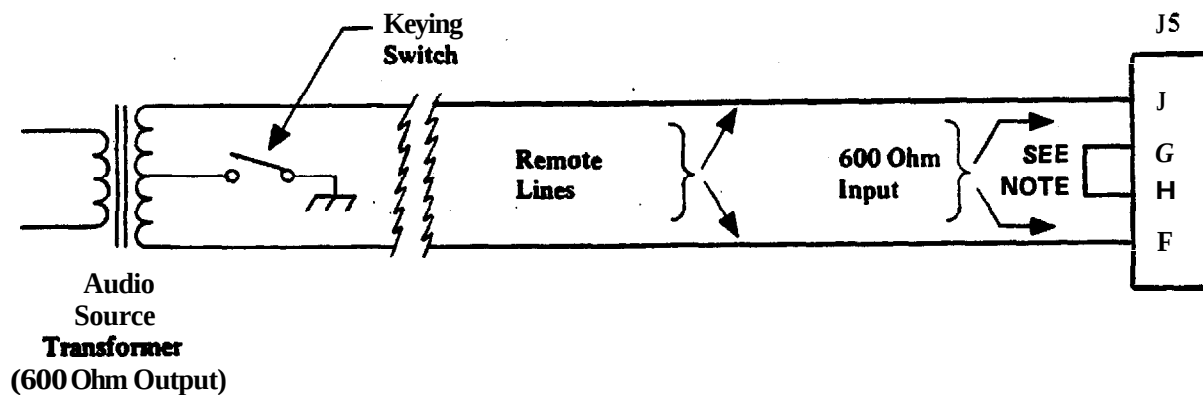

Figure 2-5. Remote Audio Input and Keying Circuit
a. The audio input and remote keying for exciters with serial numbers before approximately 28500 and not having the Inboard Monitor/Keyer (IM/K) modification are as follows. The audio input and keying lines are J5 pins J, G, H and F. Pins J and F are inputs for a 150 ohm audio line. Keying is accomplished by grounding pin G or H of the respective inputs, thus two separate 150 ohm remote audio inputs can be used, and keying can be accomplished at both sources. A 600 ohm single audio input can be obtained by jumping pins G and H, with the audio input on pins J and F. Keying is accomplished by grounding any of the audio lines; however, dc currents through the input should be kept below 5 ma to prevent distortion in the input audio transformer. Keying is best accomplished by grounding pins G or H which are the center taps of the input audio transformer when jumpered together. See figure 6-23 for details of the audio input circuit. A diagram of a recommended connection for remote audio input and keying circuit is shown in figure 2-5. Use of any of the optional module keying modes can also key the transmitter.